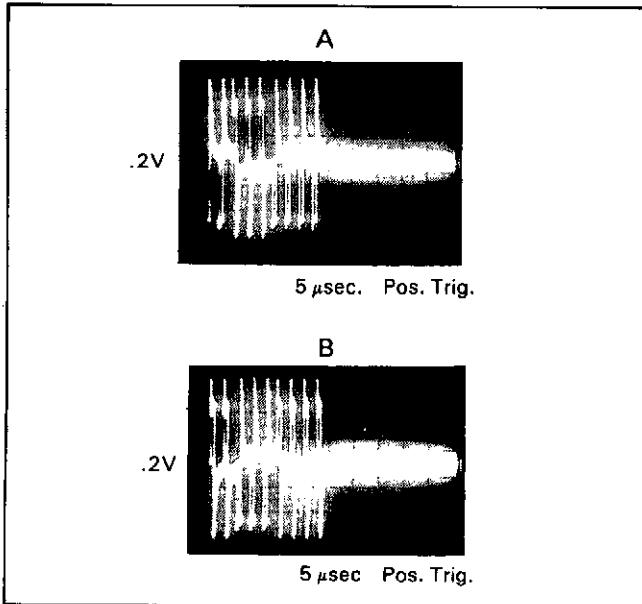

Figure 8-A-8. Output of U19.
b. Check for the waveforms shown in Figure 8-A-9A, B, and C at U19 pin 1, 2, and 10, respectively. If the waveforms are good, replace U19.